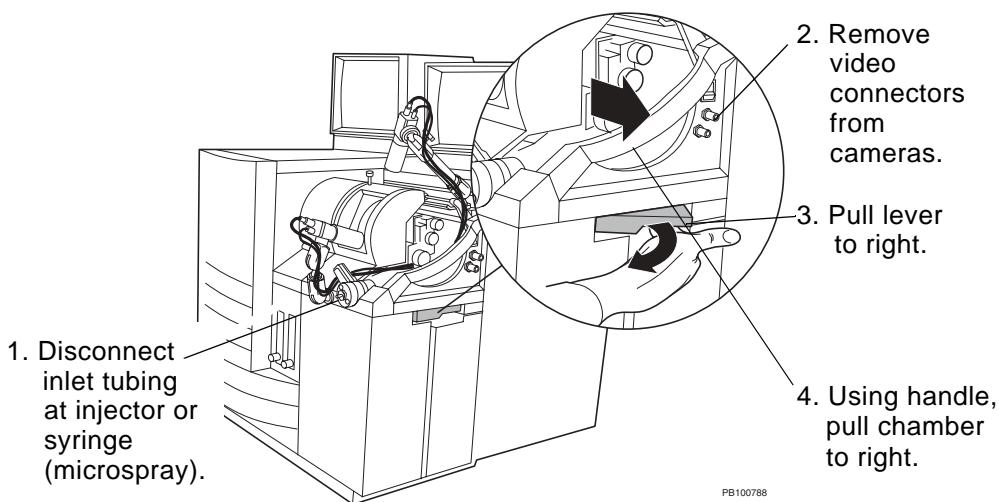

Figure 3-2 Removing the Nanospray Spray Chamber
2. Make sure the spray chamber lever is pulled out (see Figure 3-2 on page 17).
5. Disconnect the inlet tubing from the integrated injection valve, if it is connected, or from the syringe (Figure 3-2).
6. Remove the video and power connectors from both cameras (Figure 3-2).
7. Pull the spray chamber lever to the right (Figure 3-2).
8. Remove the spray chamber by pulling it to the right, away from the workstation (Figure 3-2), and lifting it out of the way.